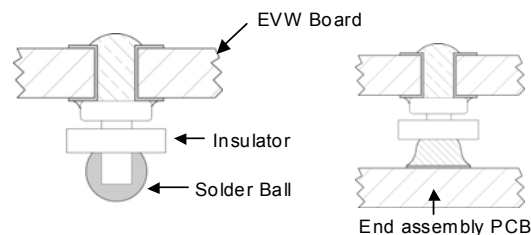

Figure 22. Column Pin Connector Before and After Reflow Soldering .
The surface mountable modules in the EVW family use our newest SMT technology called “Column Pin” (CP) connectors. Figure 22 shows the new CP connector before and after reflow soldering onto the end-board assembly.